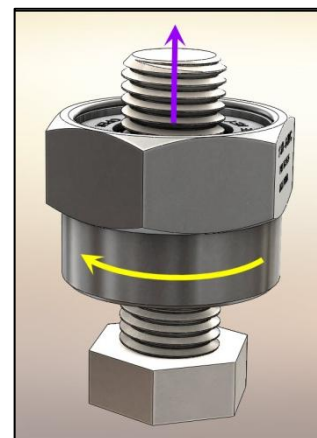

Figure 3 – Rotate QTC in direction shown to repair damaged threads
- 6) Using a hand-operated or impact wrench, rotate QTC clockwise until removed from the damaged bolt/rod (see Figure 3). When rotating QTC off bolt/rod, **DO NOT** apply forward pressure (pressure in opposite direction to direction QTC is rotating off) to QTC as it may cause the QTC to remain in the "open" position and not properly repair the damaged threads.